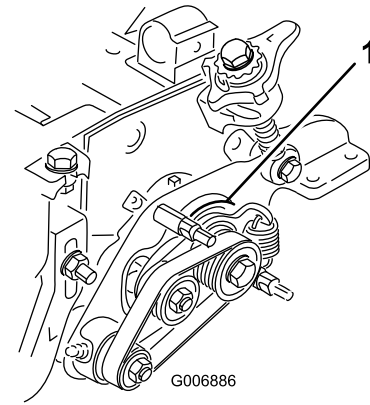

Figure 28
5. Make sure that the main drive bushing (Figure 28) pivots freely around the drive hub.